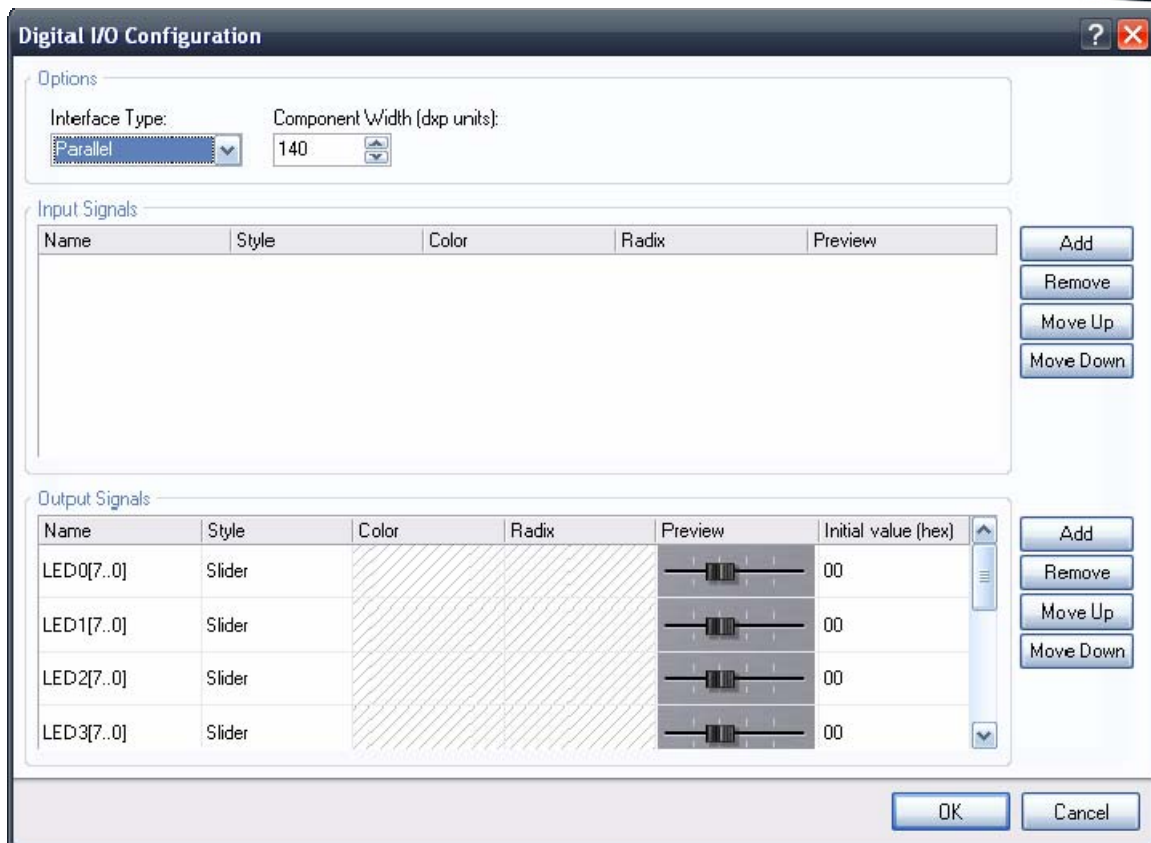

Figure 3. Configure the Digital IO to have no inputs, and 8 slider style outputs.
18. **Add** 7 more Output Signals to give a total of 8, setting their style to Slider and their names to LED1 ( 7 . . 0 ) through to LED7 ( 7 . . 0 ), respectively. The dialog will now look like Figure 3.